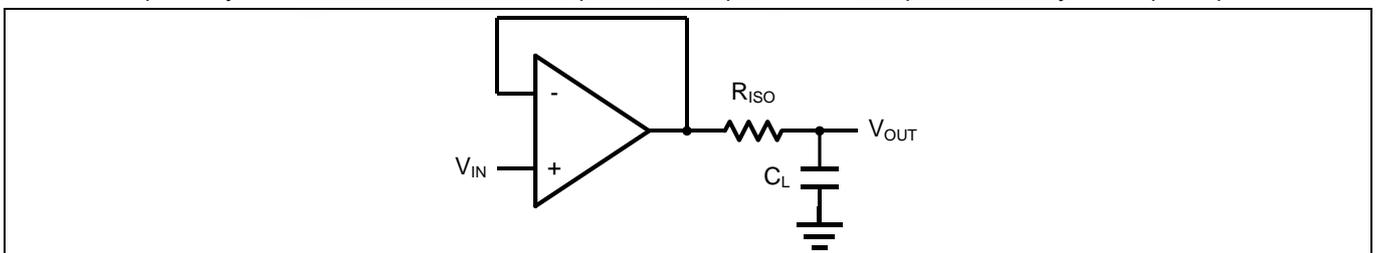
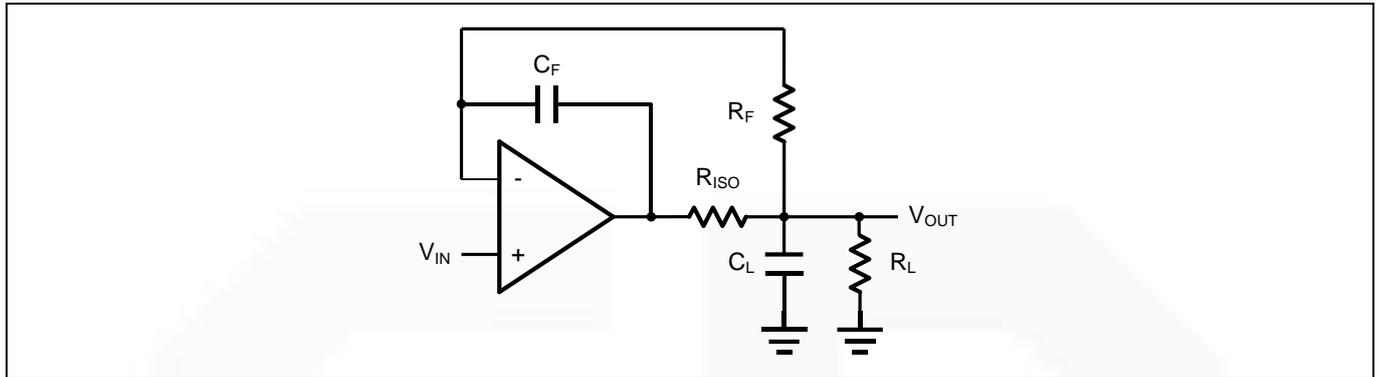

Figure 2 Indirectly Driving a Capacitive Load Using Isolation Resistor
Figure 3. Indirectly Driving a Capacitive Load with DC Accuracy
The GS601X family is optimized for bandwidth and speed, not for driving capacitive loads. Output capacitance will create a pole in the amplifier's feedback path, leading to excessive peaking and potential oscillation. If dealing with load capacitance is a requirement of the application, the two strategies to consider are (1) using a small resistor in series with the amplifier's output and the load capacitance and (2) reducing the bandwidth of the amplifier's feedback loop by increasing the overall noise gain. Figure 2 shows a unity gain follower using the series resistor strategy. The resistor isolates the output from the capacitance and, more importantly, creates a zero in the feedback path that compensates for the pole created by the output capacitance.
The circuit in Figure 3 is an improvement to the one in Figure 2.  $R_F$  provides the DC accuracy by feed-forward the  $V_{IN}$  to  $R_L$ .  $C_F$  and  $R_{ISO}$  serve to counteract the loss of phase margin by feeding the high frequency component of the output signal back to the amplifier's inverting input, thereby preserving the phase margin in the overall feedback loop. Capacitive drive can be increased by increasing the value of  $C_F$ . This in turn will slow down the pulse response.